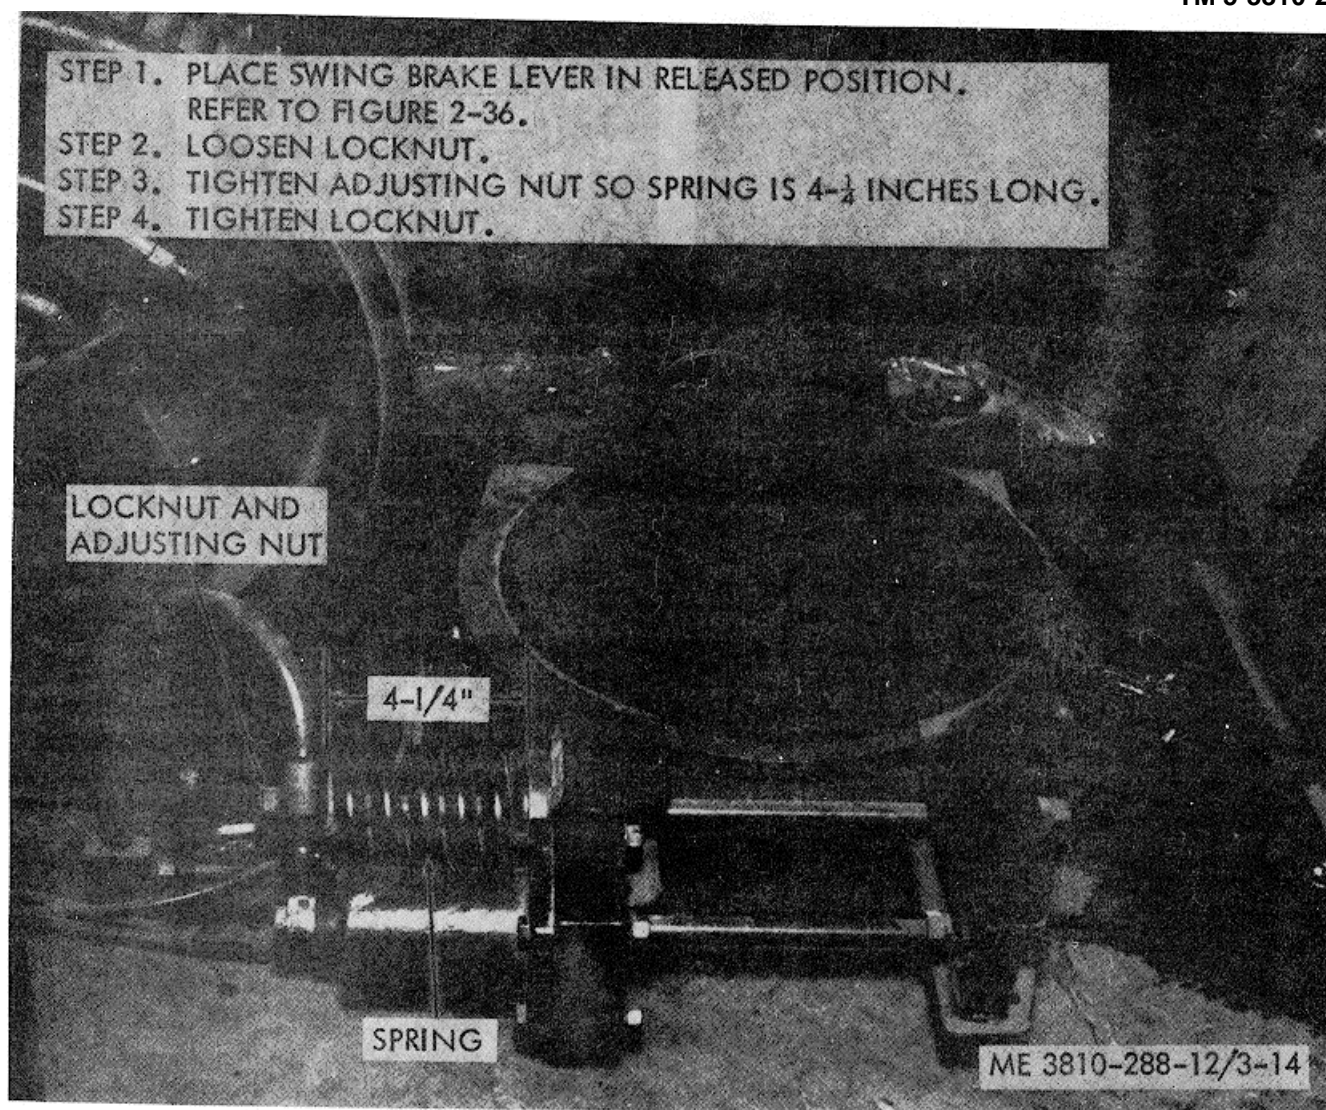

Figure 3-14. Swing brake adjustment.
b. Adjust. Refer to figure 2-36 and place the swing brake lever in the released position. Refer to figure 3-14 and adjust the swing brake.